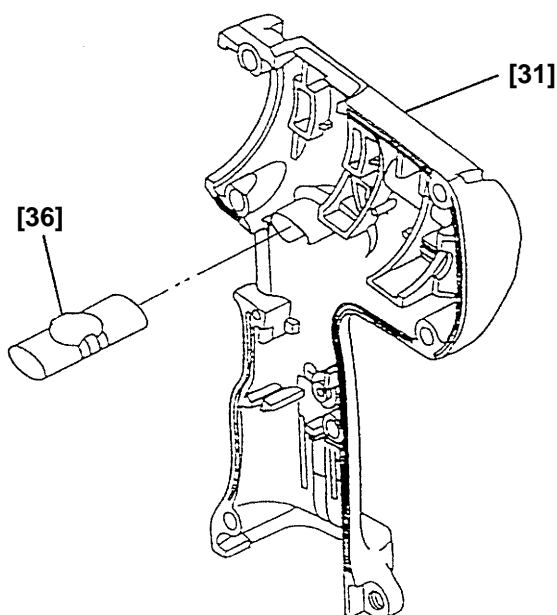

Fig. 14
- (5) Installation of the assembly reassembled in step (3) into Housings (A) and (B) [31]
- (a) Install the Pushing Button [36] into Housing (B) [31]. (See Fig. 14.)